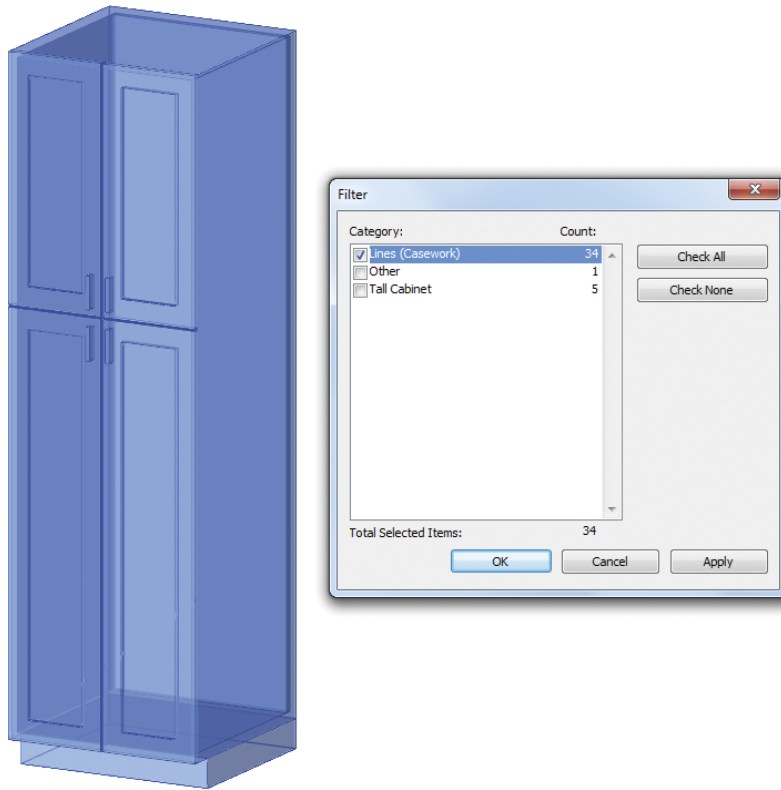

FIGURE 6.9 Using Filter for selection
6. Click Check None, and then check Lines (Casework). Click OK to return to the model with only the lines selected (Figure 6.9).